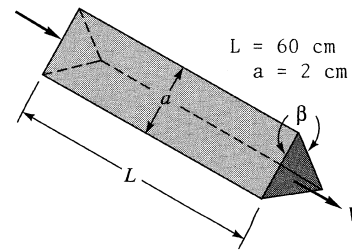

Fig. P6.91
**6.91** Heat exchangers often consist of many triangular passages. Typical is Fig. P6.91, with  $L = 60$  cm and an isosceles-triangle cross section of side length  $a = 2$  cm and included angle  $\beta = 80^\circ$ . If the average velocity is  $V = 2$  m/s and the fluid is SAE 10 oil at  $20^\circ\text{C}$ , estimate the pressure drop.